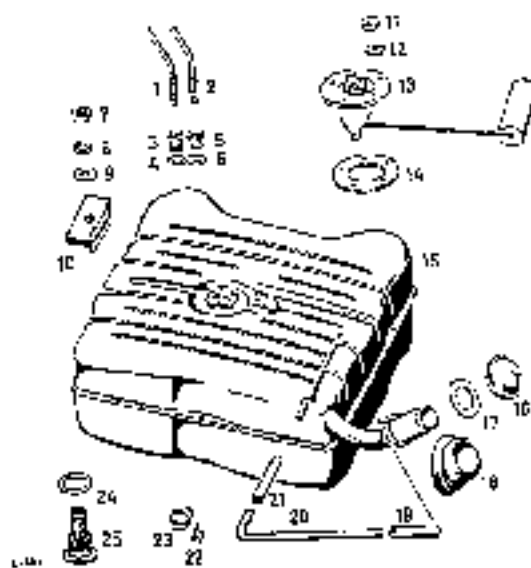

Fig. 47-1/1
Disconnect and connect the reserve fuel line. The fuel tank is ventilated by the one-turn cap (76) (Fig. 47-1/1). On this model the vent line is not required.